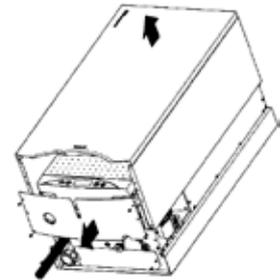

Fig. 1
5. Remove the front cover of the boiler by unscrewing the relevant fixing screws (Fig. 1).